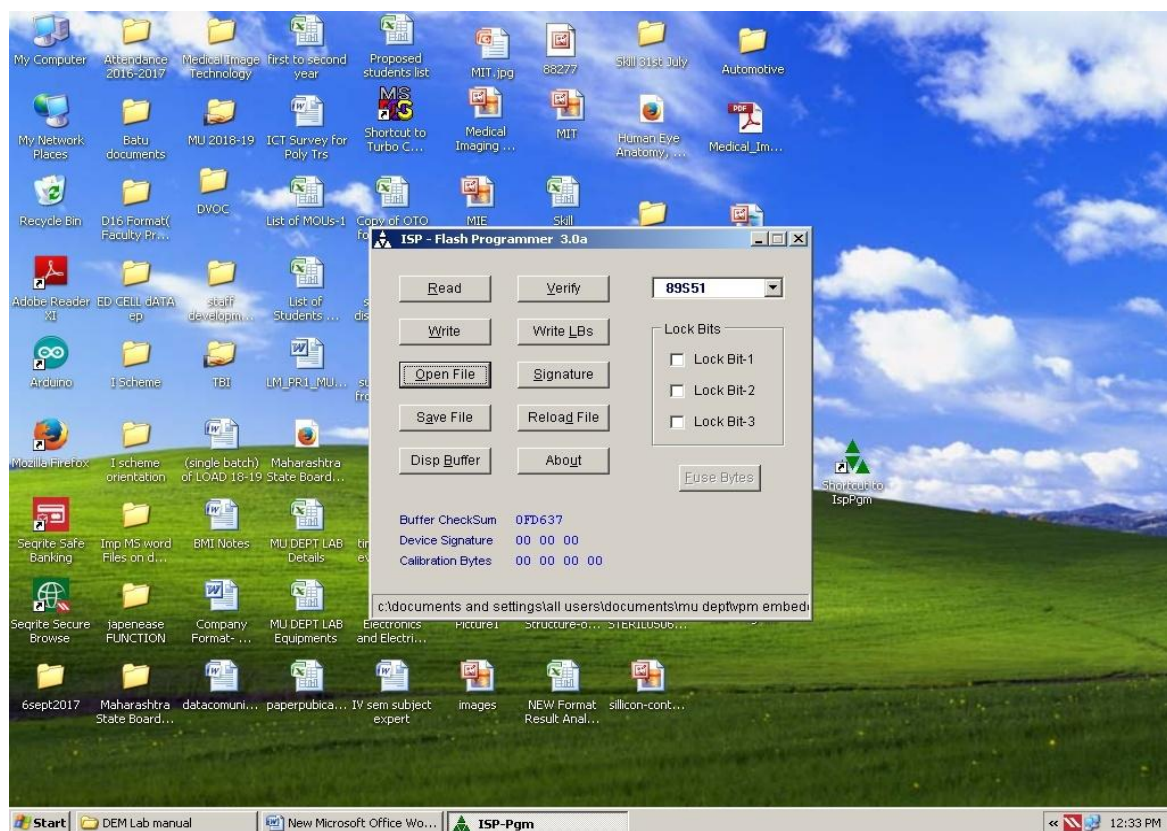

Figure. 5
- Click on the 'open file' in the window and select required Hex file from the proper location that has been created. Fig 5 & 6